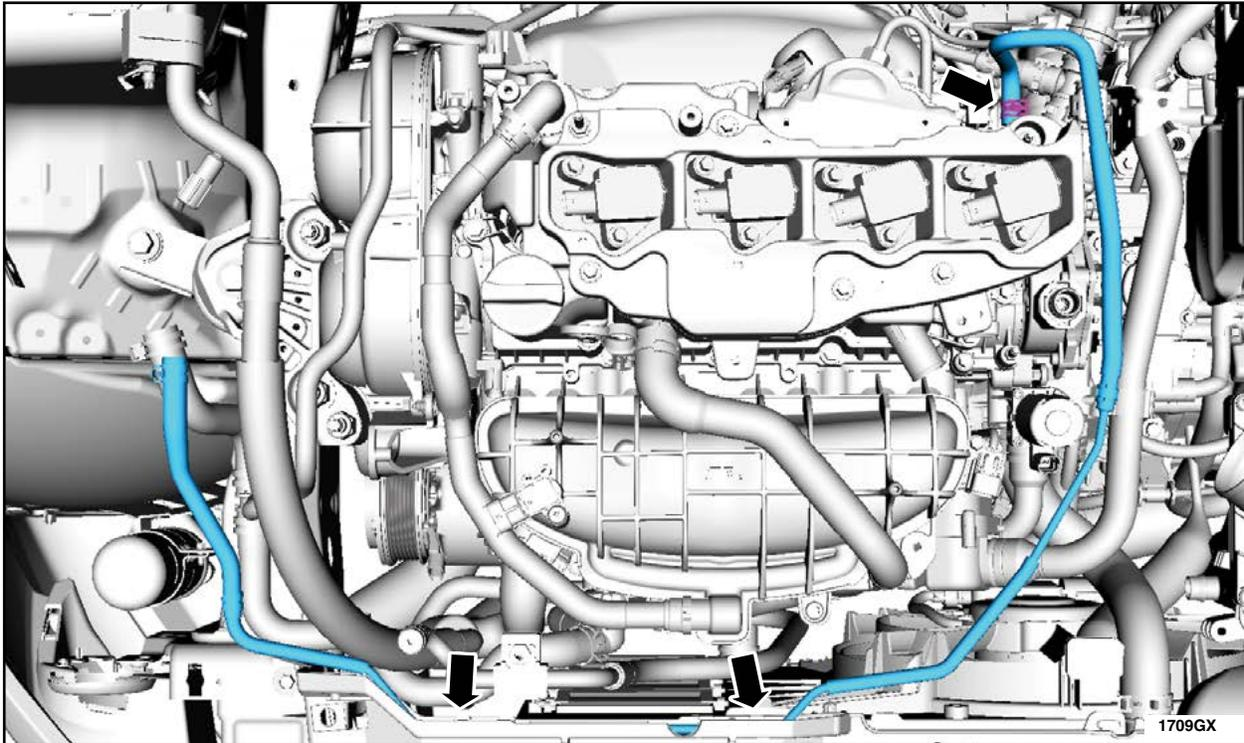

FIGURE I11
11. Install the *new* engine degas tube assembly and connect to the back of the engine. Attach the retaining clips. See Figure I11.